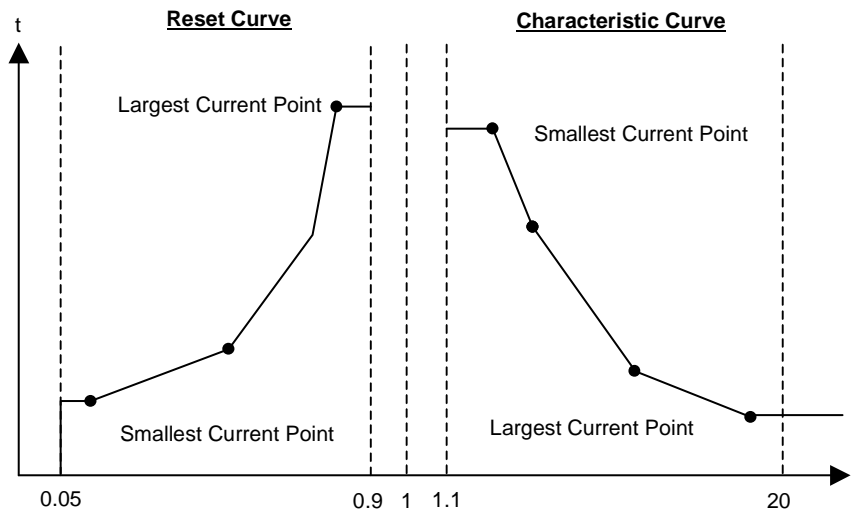

Figure 6-18 Use of a User-Specified Curve
- Current flows which are less than the *smallest* current value entered will not lead to an extension of the tripping time beyond the time associated with the smallest current value entered. The characteristic curve (see Figure 6-18) represents constant tripping time for currents less than the *smallest* current value entered
- Current flows which are greater than the *largest* current value entered will not lead to a reduction of the tripping time below the time associated with the largest current value entered. The characteristic curve (see Figure 6-18) represents constant tripping time for currents greater than the *largest* current value entered.
- Current flows which are greater than the *largest* current value entered will not lead to an extension of the reset time beyond the time associated with the *largest* current value entered. The reset curve (see Figure 6-18) represents constant reset time for currents larger than the largest current value entered.
- Current flows which are less than the *smallest* current value entered will not lead to a reduction of the reset time below the time associated with the *smallest* current value entered. The reset curve (see Figure 6-18) represents constant reset time for currents smaller than the smallest current value entered.